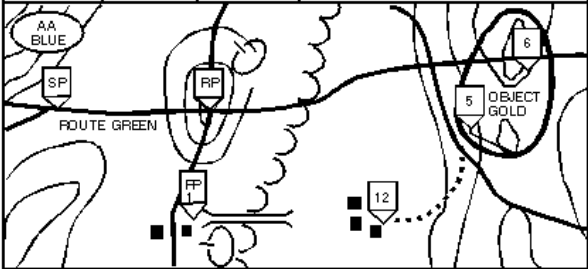

Figure 2-6. Route chart for compass and odometer navigation method.
- o Develop a chart listing the legs or parts, azimuths, and distances. Write a description of each leg or part. Refer to Figure 2-6, page 2-32, for an example.